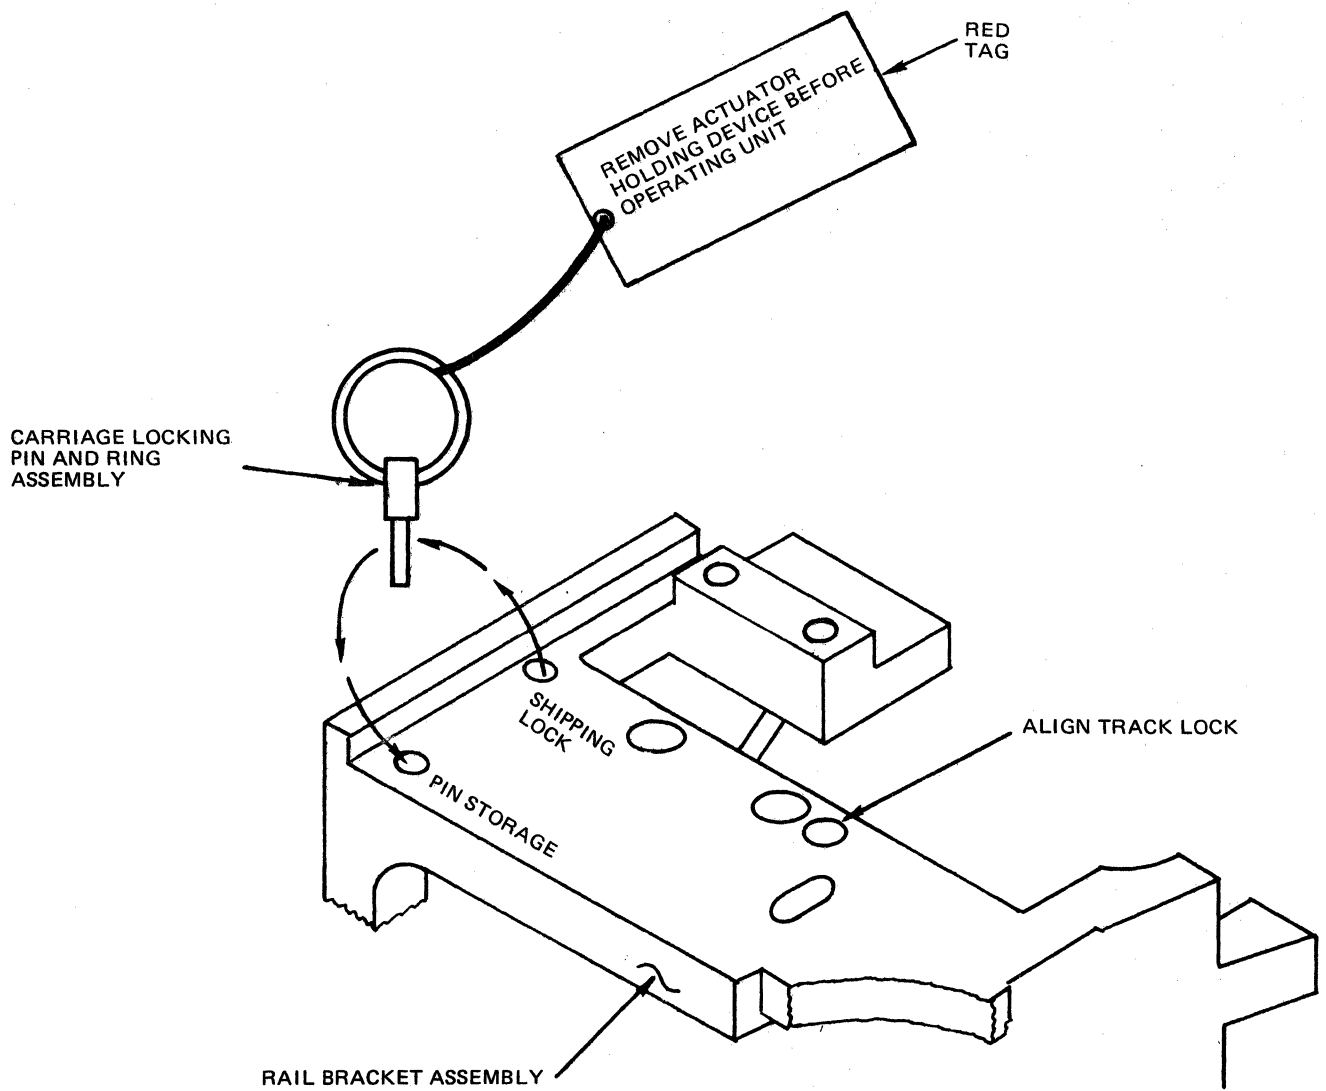

Figure 2-4 Removal of Carriage Locking Pin and Ring Assembly
2. Within upper mass storage unit, locate rail bracket assembly (see Figure 2-4). Remove taped down carriage locking pin and ring assembly (red tag attached) from SHIPPING LOCK hole and store in PIN STORAGE hole. Discard red tag and string.
3. Within expansion drawer, locate rail bracket assembly (see Figure 2-4) and remove taped down carriage locking pin and ring assembly (red tag attached) from SHIPPING LOCK hole and store assembly in PIN STORAGE hole. Discard red tag and string.